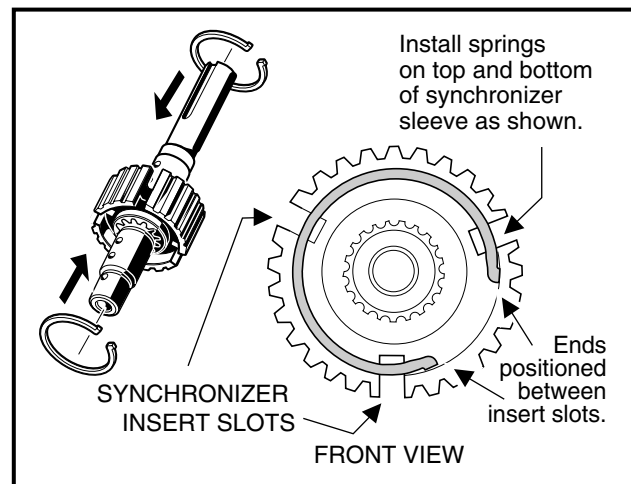

Figure 16a-63 Synchro. Springs
4. Install the synchronizer clutch hub (52) (**Figure 16a-48, Page 16a-23**) onto the synchronizer sleeve. Make sure the chamfered end of the hub is oriented toward the long end of the input shaft as shown (**Figure 16a-65, Page 16a-30**).